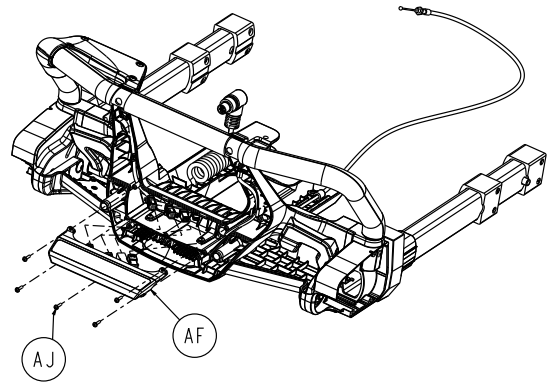

Figure 90 – Remove the light module cable assembly
10. Using a T10 Torx driver, remove the five round washer head tapping screws (AJ) that secure the light module cable assembly (AF) (Figure 90). Remove and save the light module cable assembly. Save the screws.